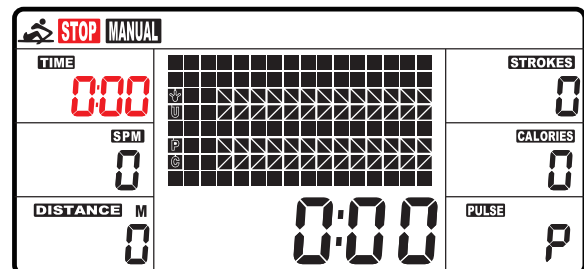

Fig. 4
1. MANUAL (Fig.4): There are 2 options in MANUAL mode.